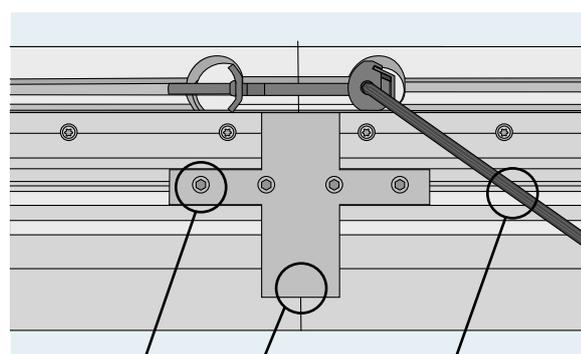

Figure 3
- 15.** Assemble the threshold by inserting the connector bracket into the timber part and tightening it with a 4 mm Allen key (figure 3). Then tighten the grub screws.